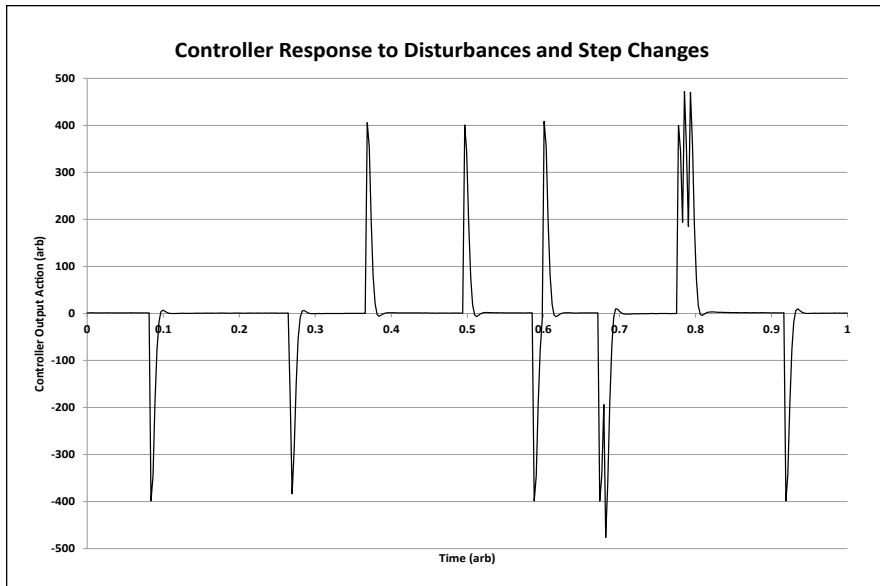

Figure 6. Controller response to disturbances and step changes. The two are indistinguishable.
An abrupt change in the MV can be viewed as functionally equivalent to a step change of the set point (*Figure 6*), so the same tuning performed to ensure the best response to a step change of the set point does much the same for disturbance
*Figure 6* also illustrates the usual controller response to a step change or disturbance, an abrupt spike known as kick. Although unavoidable, kick can be undesirable for several reasons: it may be stressing the power supply or actuator unnecessarily or the controller output could be instructing a power supply to force a large current into an inductive load, such as a motor.